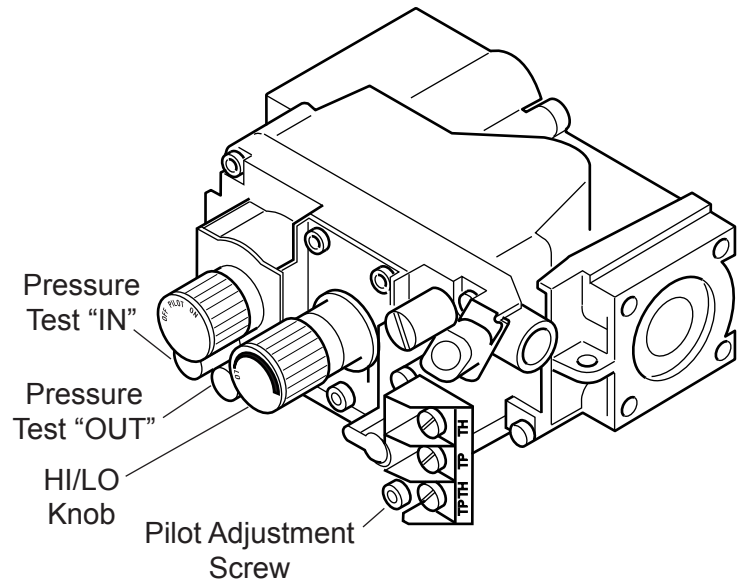

Figure 39 - Gas Pressure Check at Gas Valve
5. To check gas pressures at valve, turn captured screw counter clockwise 2 or 3 turns and then place tubing to pressure gauge over test point. Turn unit to high. See *Figure 39*. After taking pressure reading, be sure and turn captured screw clockwise firmly to reseal. Do not over torque. Check test points for gas leaks.